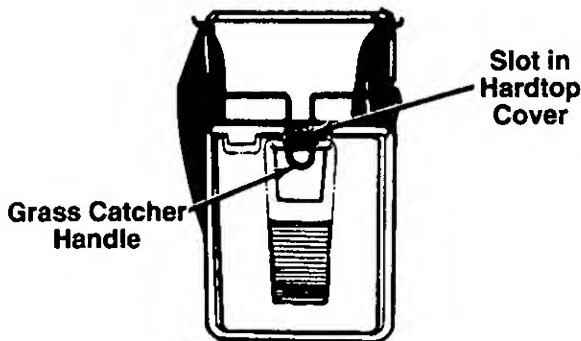

FIGURE 5.
5. Hold the bag and frame so the bag hangs from the frame (is not bunched around the frame). Slide the handle on the grass catcher frame down into the slot in the hardtop cover as shown in figure 5.